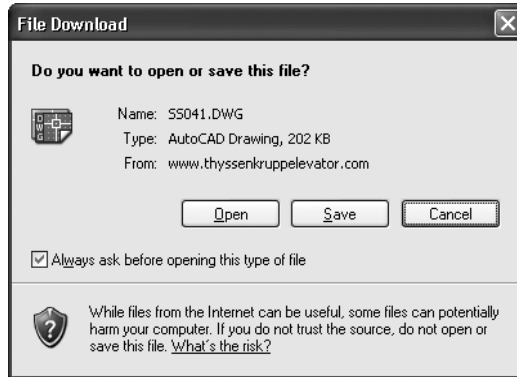

Figure 3-3.4 File Download dialog
- Click the **Save** button (Figure 3-3.4) and browse to your *My Documents* folder.